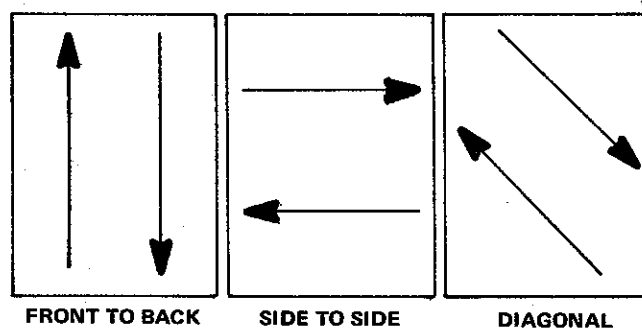

Figure 3-11. Mowing Patterns
K. Change patterns occasionally to eliminate matting, graining and a corrugated appearance. See diagram on Figure 3-11. To collect lawn clippings, a trailing lawn sweeper is available from your Simplicity dealer. See Section 8, Parts Listing. Remember to allow the clippings to dry out for several hours before sweeping.